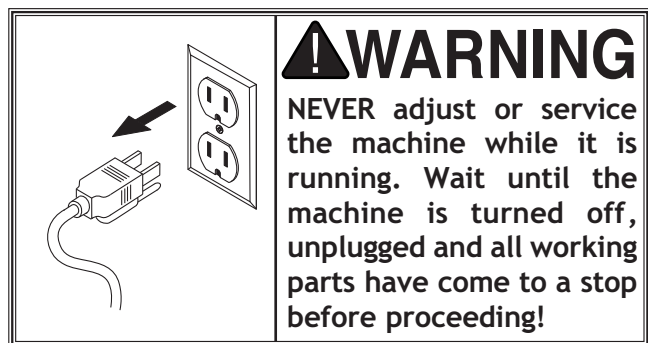

Figure 25. Using drift key to remove arbor.
6. Tap the drift key with a rubber or wooden mallet, as shown in **Figure 25**, until the chuck releases and catch the chuck with your hand.